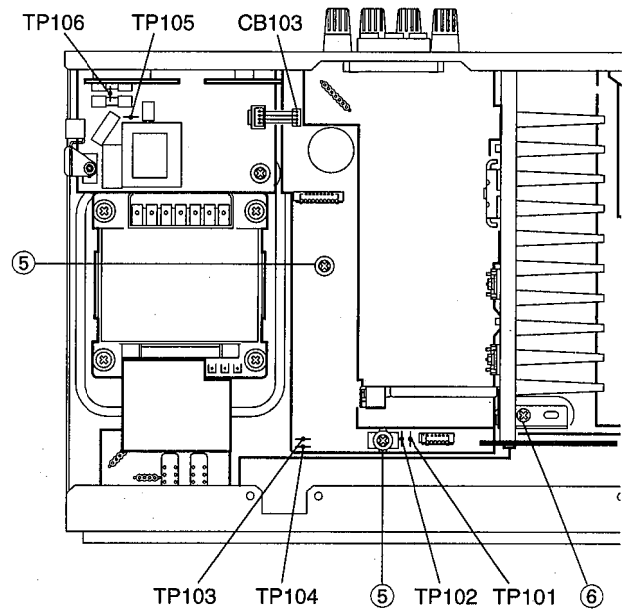

Fig. 3
- b. Remove 2 screws (⑤) and 1 screw (⑥) in Fig. 3.
- c. Detach 1 connector terminal (CB103) in Fig.3
- d. Operating checks can be taken by shorting between following test points in Fig.3.